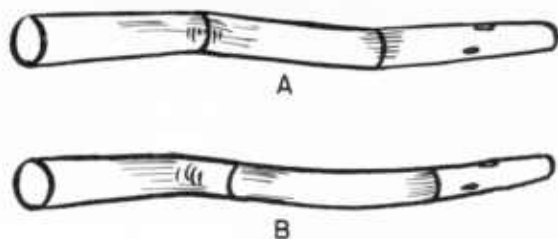

Figure 157.—To make logs as straight as possible, cut at points of most abrupt crook, A; not at nearby points, B.
5. So far as practicable, cuts should be made at points of the most abrupt crook, leaving the cut logs as straight as possible (figs. 157 and 158).